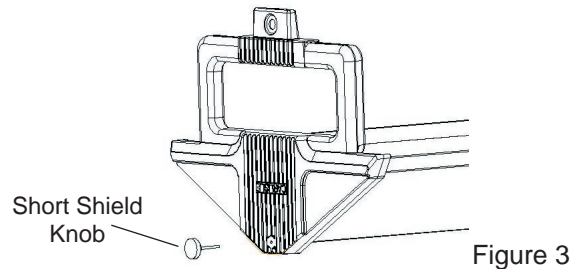

Figure 3
- Step 9: Insert one Short Shield Knob through Sneeze Guard Post and into the Sneeze Guard Ridge Channel. Tighten until snug. Do not over-tighten (see Figure 3).